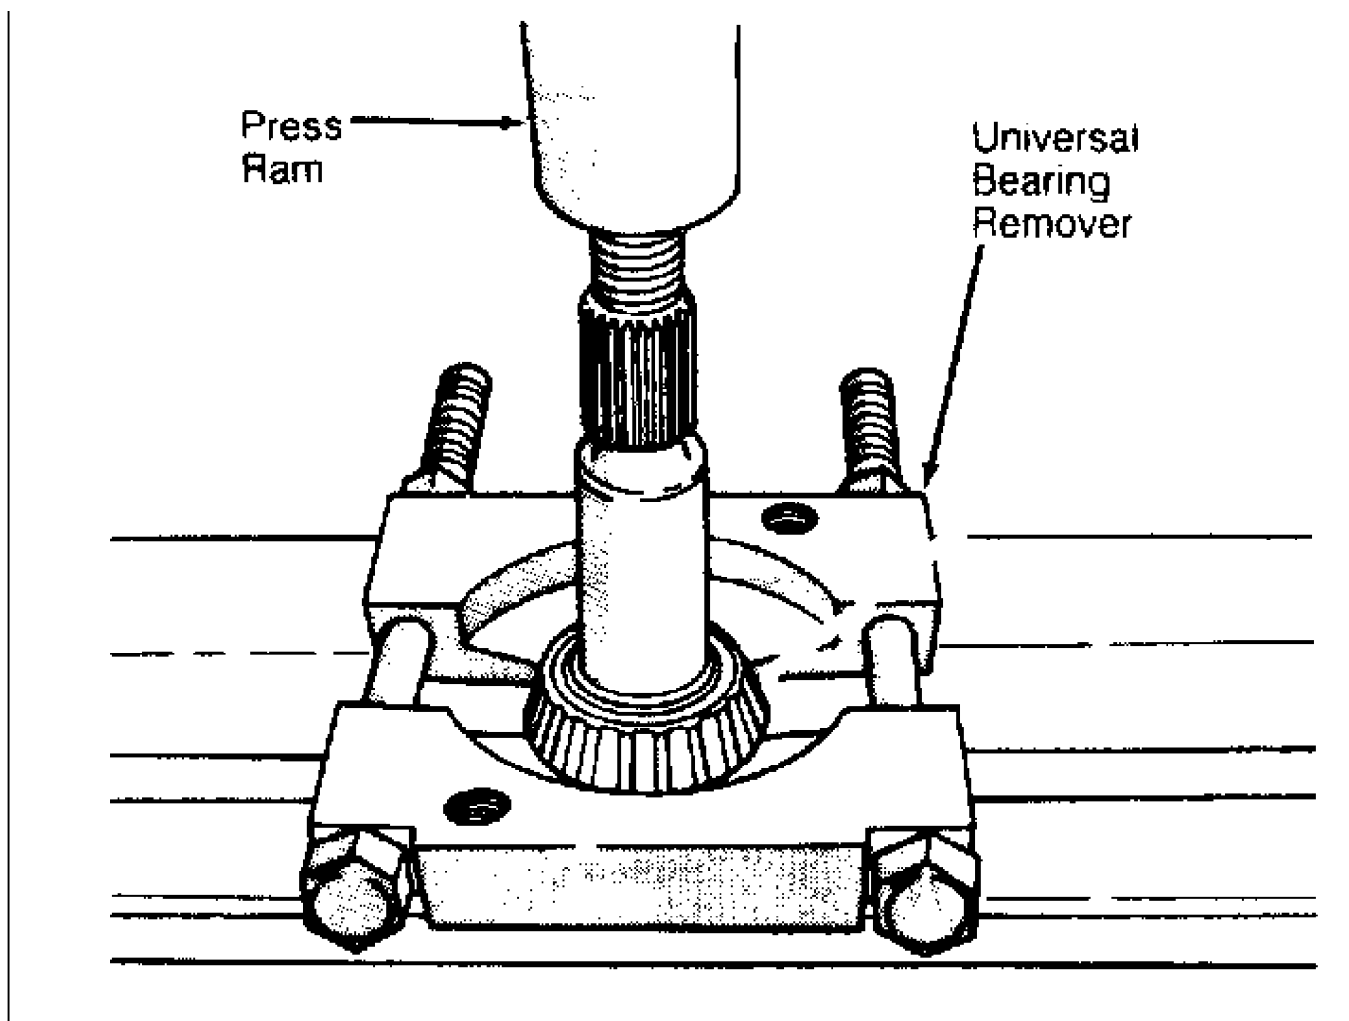

Fig. 5: Pressing Off Pinion Gear Rear Bearing
4) Remove pinion seal and rear pinion bearing race. Remove and retain pinion depth shim located under rear bearing race. Remove pinion front bearing race. Press off pinion gear rear bearing from pinion gear See Fig. 5. On front axles, remove inner axle housing seals.